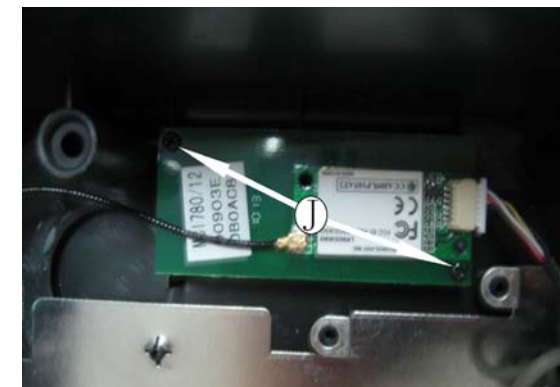

Figure 10
- 3) Loosen 2 screws "J" as shown in figure 10 to detach Wifi Card.